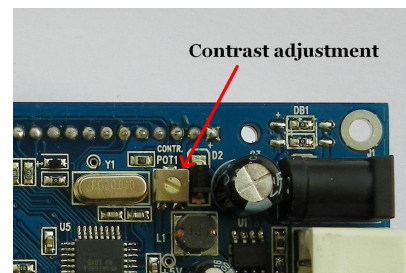

Fig. 9
- 4) At the moment you may find nothing displayed on LCD. Don't be disappointed. You need to set correct contrast for the LCD. Get a small flat screw driver and tune POT1 until clear display is obtained (Fig. 9).